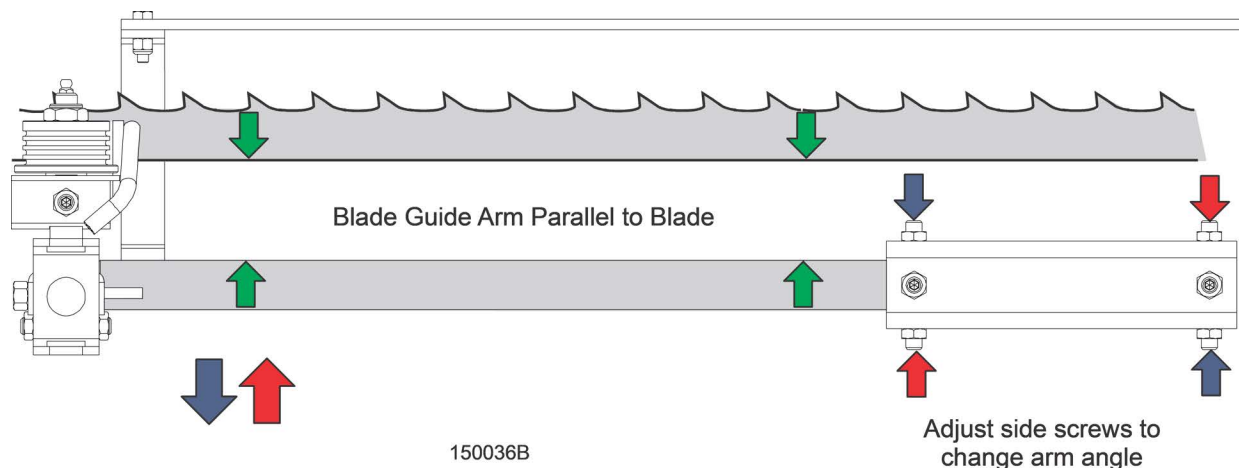

FIG. 7-3
6. With the blade guide arm still all the way in toward the other blade guide, tighten all the side screws until they touch the arm. See FIG. 7-3.